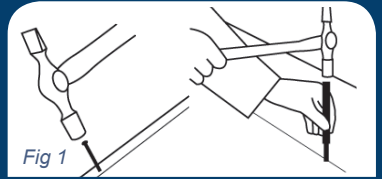

Fig 1
1.3 Square the first row of boards to the pre-marked line with the tongue facing into the room. Top nail at 250-300mm intervals or onto every joist, and where possible within 75mm of the end of each board and countersink through the boards as near to the wall as possible. (Figure 1)
3.1 Begin your installation against a sound, straight wall, starting in the left corner and working right. It may be necessary to scribe the first row of boards to achieve correct alignment. Always begin the installation with the groove side of the plank facing the wall. (*Figure 1*)
Correct Glue Placement: (Figure 1)